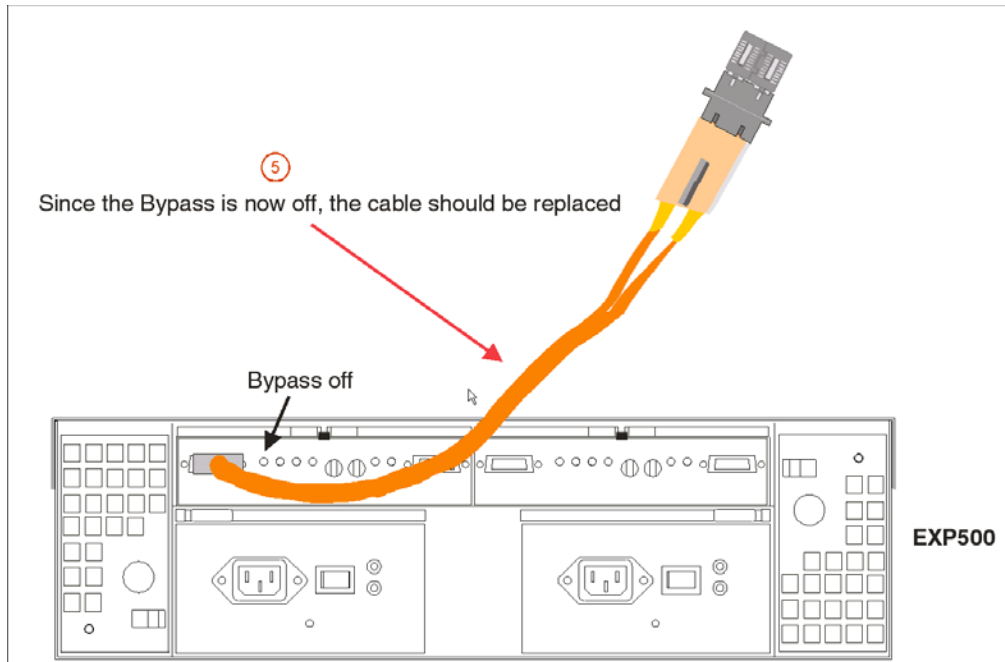

Figure 73. Insert wrap plug into element
5. As was shown in step 4, insert the wrap plug into the element from which the cable was removed in step 3. See Figure 73 on page 136.